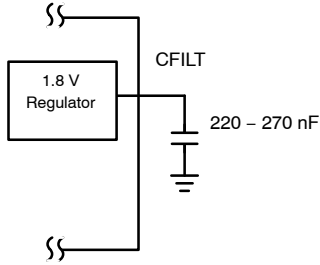

Figure 4. CFILT Capacitor
3. C_{FILT} capacitor must be installed; see Figure 4.